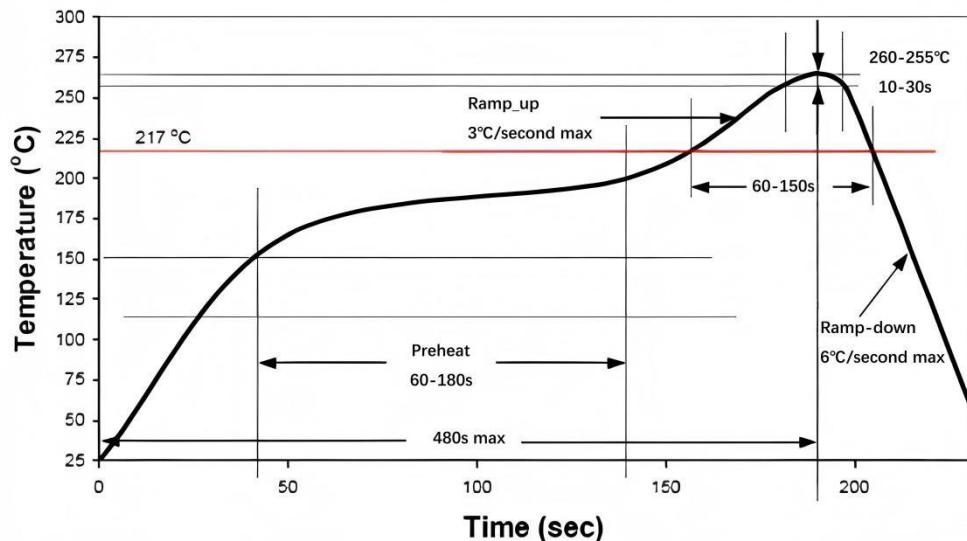

Fig.7 Reflow soldering temperature setting conditions
- The recommended reflow oven temperature setting conditions are shown in Figure 7.